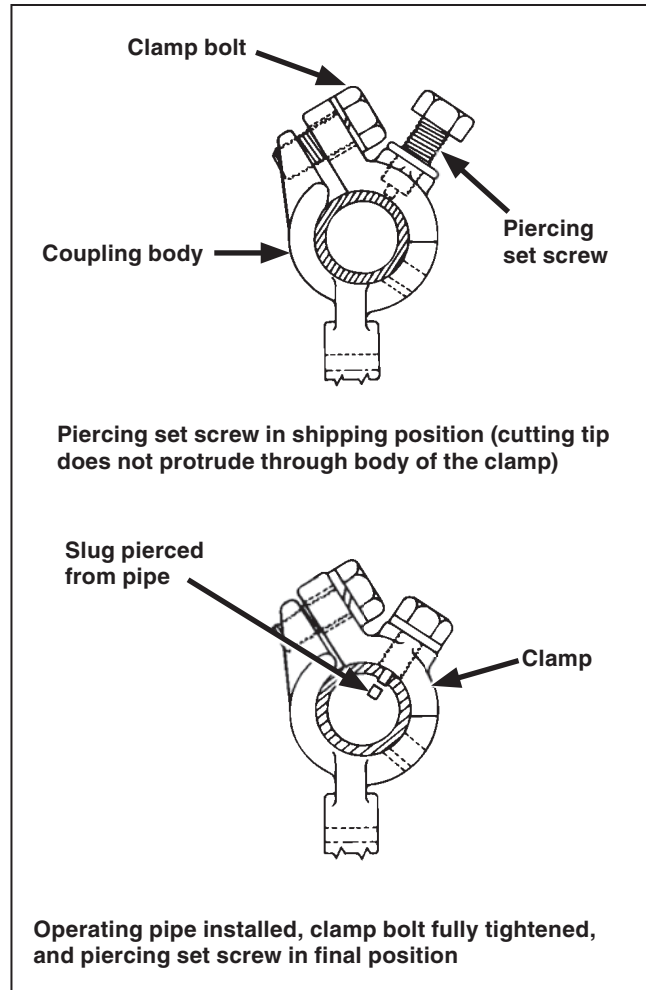

Figure 8. Installing the pipe couplings with piercing set screws.
- (e) Make sure the clamp bolt(s) are tight. See Figure 8.